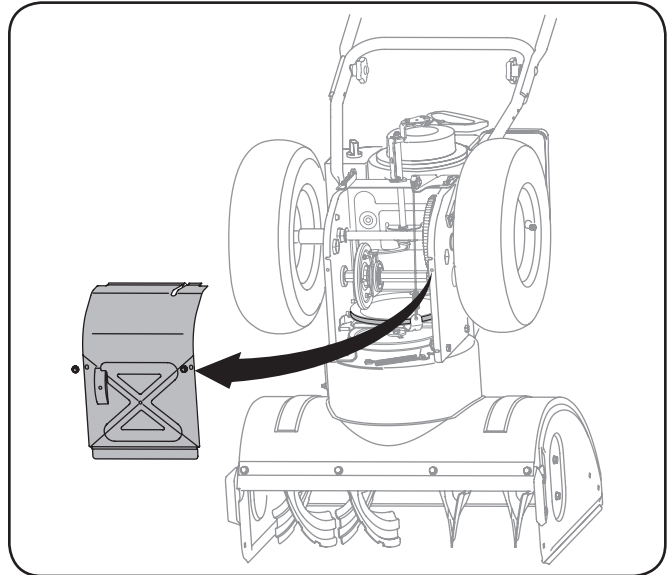

Figure 7-3
2. Remove the frame cover from the underside of the snow thrower by removing four self-tapping screws which secure it. Refer to Fig 7-3.
4. Remove the frame cover from the underside of the snow thrower by removing four self-tapping screws which secure it. See Fig 7-3.
5. Remove the frame cover from the underside of the snow thrower by removing four self-tapping screws which secure it. Refer to Fig. 7-3.